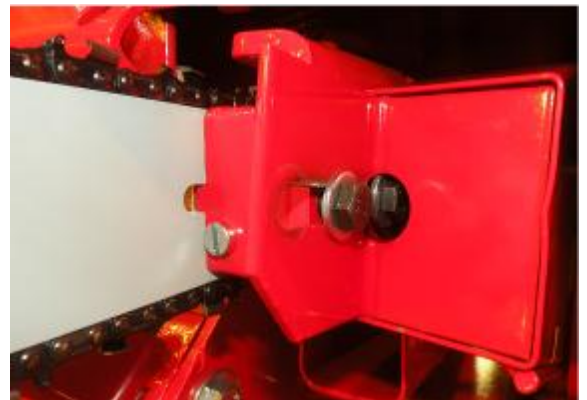

Figure 39.
3. Loosen the fastening bolts of the cutting flange, and pull off the cover of the blade chain belt, as shown in Figure 39.
7. Re-install the belt cover as shown in Figure 39, and tighten the fastening bolts of the cutting flange.